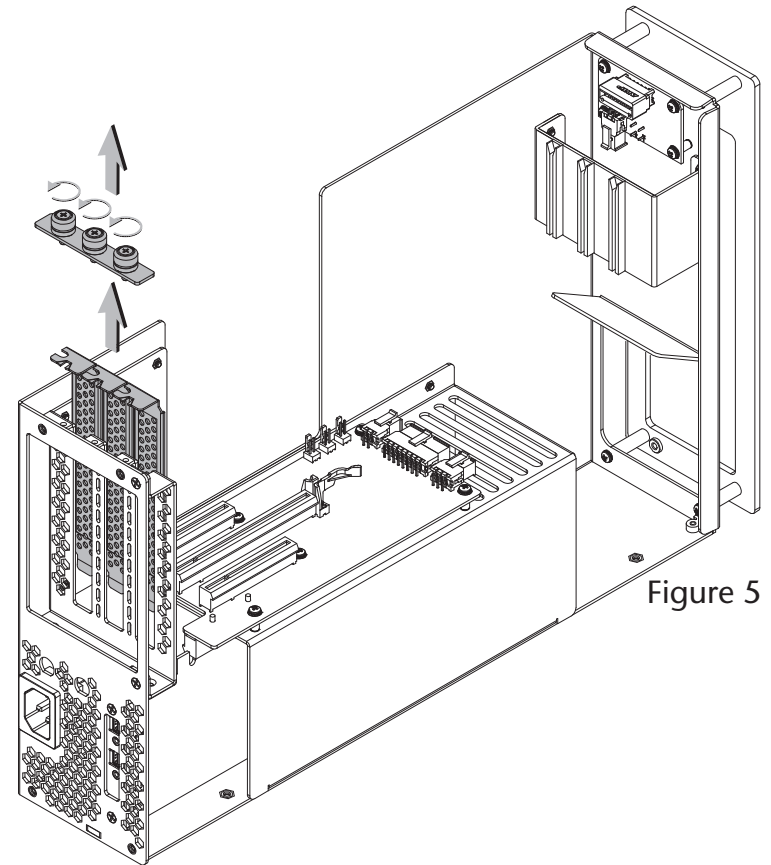

Figure 5
1. Turn the PCIe card expansion module so the PCIe slots are facing up (Figure 5).
2. Loosen all three thumbscrews of the PCIe card bracket locking plate, and then remove and set it aside (Figure 5).
3. Remove and set aside the port access covers (Figure 5).